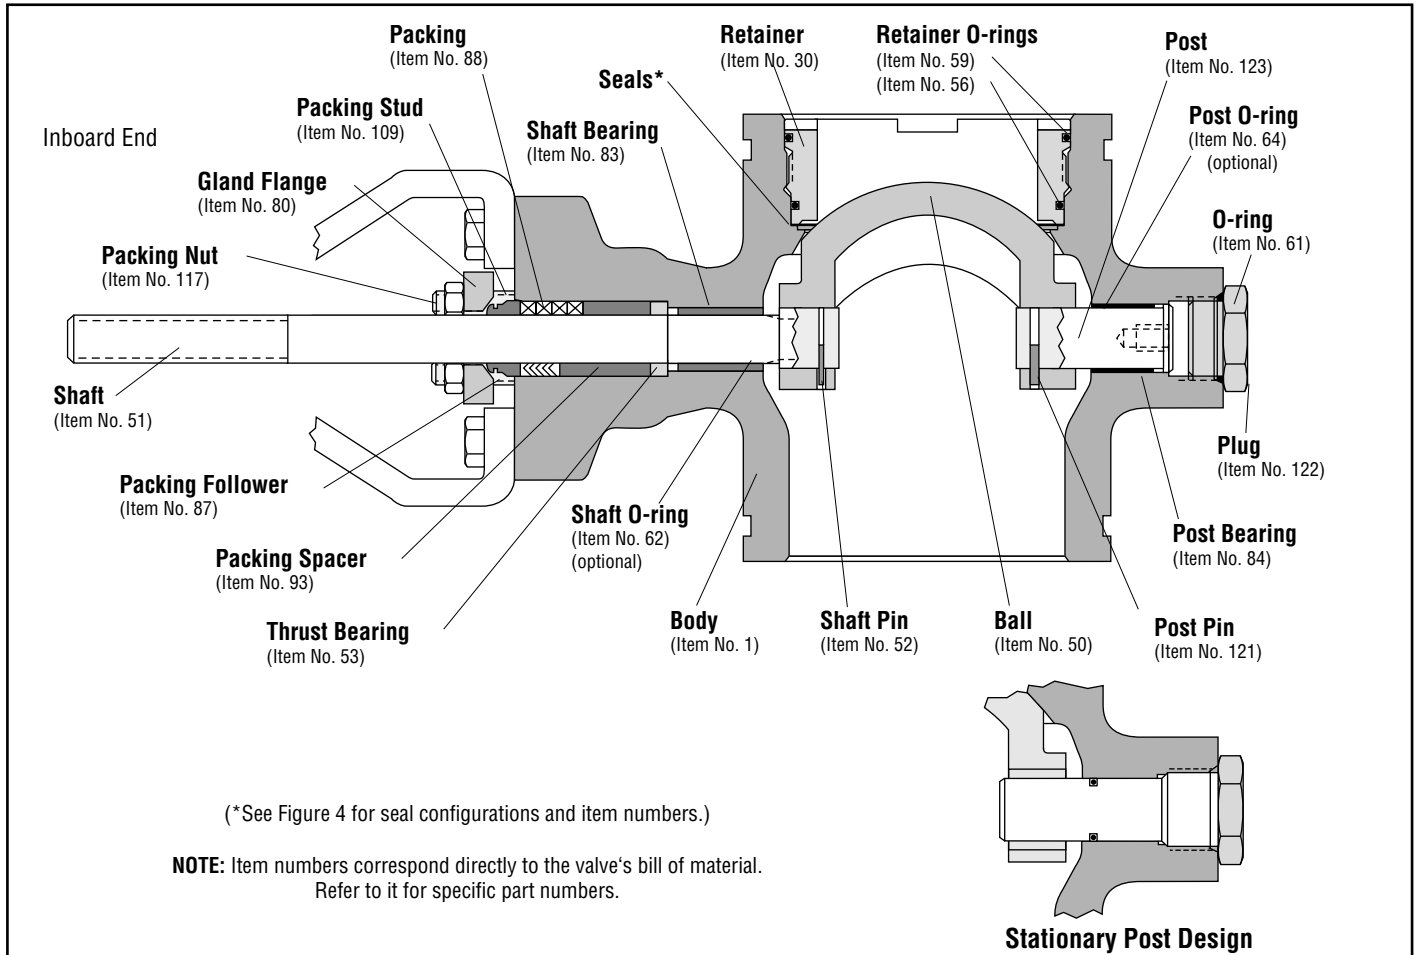

Figure 1: 3 – 12-inch and 16-inch ShearStream HP Body Assembly with Rotating Post Design
the actuator prior to body disassembly is necessary. Refer to Figures 1, 2 and 5 and proceed as follows:
To reassemble the body subassembly, refer to Figures 1 or 2, 3, 4, and 5 and proceed as follows:
8.2.14 With screwed-in retainer designs, replace the O-rings in the retainer (except on high temperature valves, which do not use O-rings). Refer to Figure 1 or 2. Lubricate the retainer threads and rings and reinstall the retainer in the front of the body. Torque the seal retainer according to